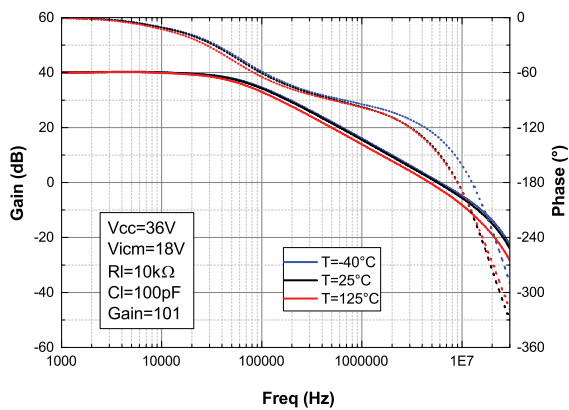
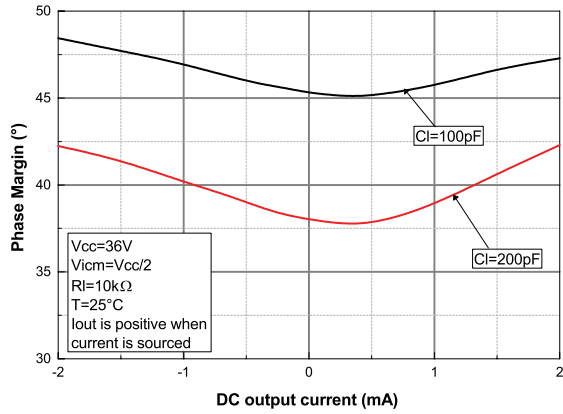

Figure 25. Phase margin vs. output current at $V_{CC} = 5\text{ V}$
Figure 27. Phase margin vs. capacitive load
4. For higher capacitive values see Figure 25. Phase margin vs. output current at V_{CC} = 5 V, Figure 27. Phase margin vs. capacitive load